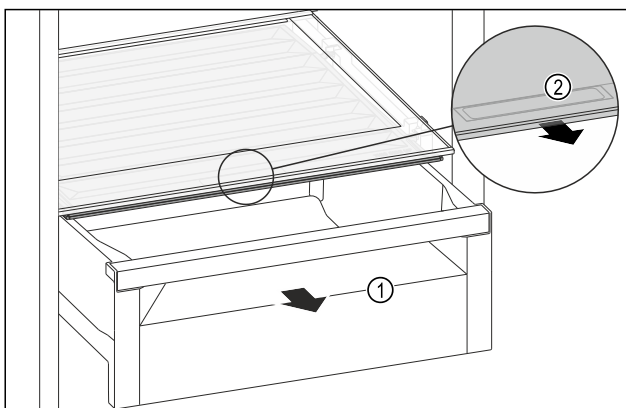

Fig. 111
- ▶ Pull out the drawer Fig. 111 (1).
- ▶ Grasp the recessed grip Fig. 111 (2) on the compartment lid and pull the compartment lid forwards at the same time.